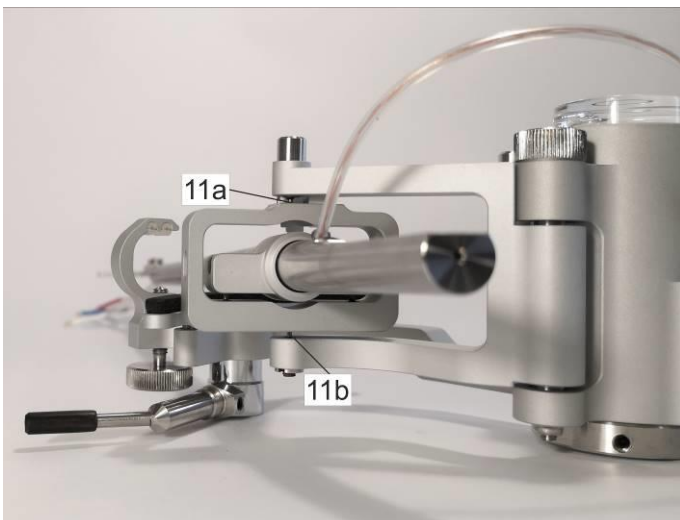

Figure 9
- n) Check if the back link vertical axis bearings [11a] and [11b] are in correct positions (Figure 9). **Needle of the bearing must be embedded in sapphire V cup.**